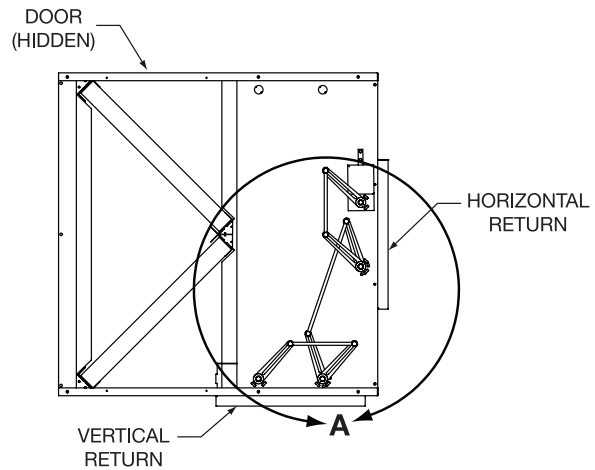

Fig. 44 — Linkage Assembly Front View (Sizes 04-17)
3. Orientate actuator to avoid interference with linkage assembly. Refer to Fig. 44 and 45.